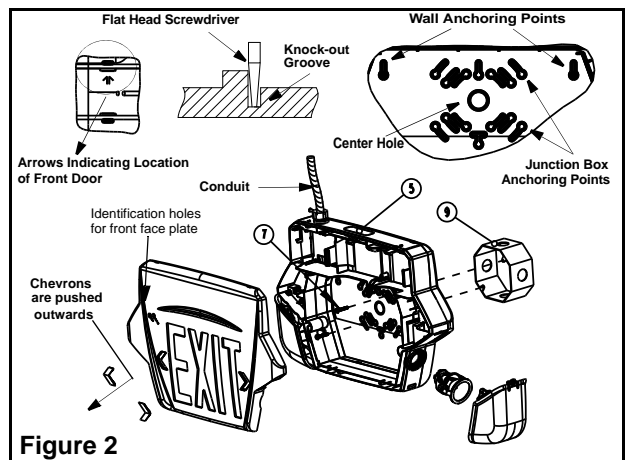

Figure 2
3. Remove face plate screws (only for some models). Remove the combo front door using a coin or a screwdriver at the top or bottom of the door. Arrows on the frame point towards the front door (See Fig. 2).
4. Determine the mounting position (wall or ceiling). Note: a canopy(6) is required for ceiling mount.
No canopy required. Remove the battery(s) with wires. With the help of flat head screwdriver, knock out the proper hole pattern on the back cover, including the center hole, to mount to a standard junction box as well as the two wall anchoring points (See Fig. 2). Install means to anchor unit in line with "Wall anchoring points". Feed the AC supply leads (and DC leads for remote lamps if applicable) around inside the housing, through the plastic conduit and out through the center hole and make the proper connections (See step 5 and Fig. 6). Unused primary wire must be insulated to prevent shorting. Feed the excess wire into the junction box. Secure the back plate to the wall at wall anchoring points using wall mount screws(16), then to the junction box using the junction box screws(7). Proceed to step 6.
Remove knock-out for the conduit entry located on the top of the central housing (See Fig. 2).
- Remove the appropriate chevron(s) on the exit door by holding sign with both hands. Push chevrons from the inside with thumb (See Fig. 2). You will need to unsnap the diffuser panel to do so.
- Reinstall combo door(s). Fasten screws (only for some models). Note: The front plate with holes must be installed on the front side (see Fig.2).